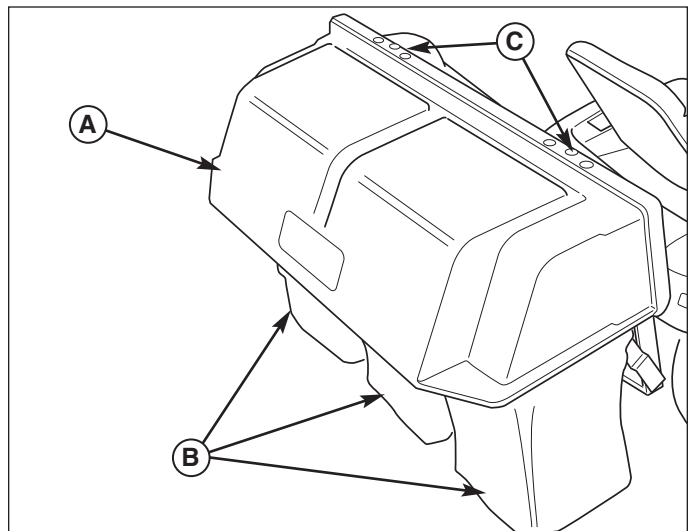

Figure 7. Install Cover
4. Install the catcher cover (A, Figure 7 & 8) and secure with the hinge pins (B) and hair pin clips (D).